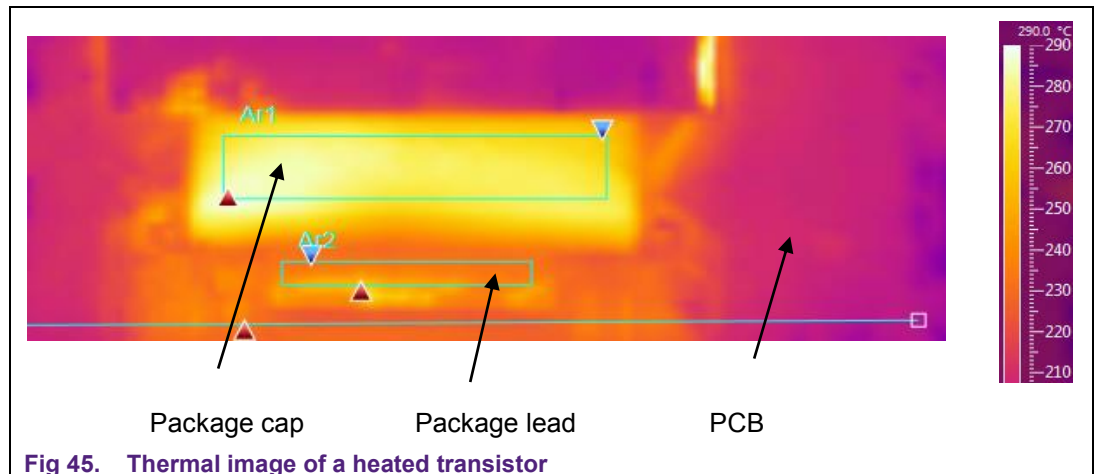

Fig 45. Thermal image of a heated transistor
- Hot air parameters should be carefully tuned for ACP packages, target is that temperature on package cap should not go above 290°C. This temperature can be checked with a thermocouple attached to the cap surface of preferably with thermal imaging camera (see example of Fig 45). Instead of air, nitrogen can also be use